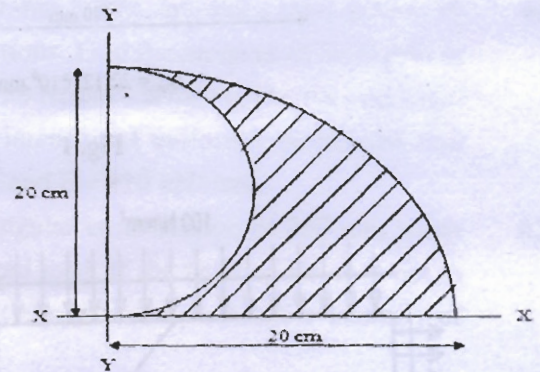

Fig. 10
- (d)** Determine the moment of inertia of the shaded area as shown in **Figure 10** about XX axis. 04